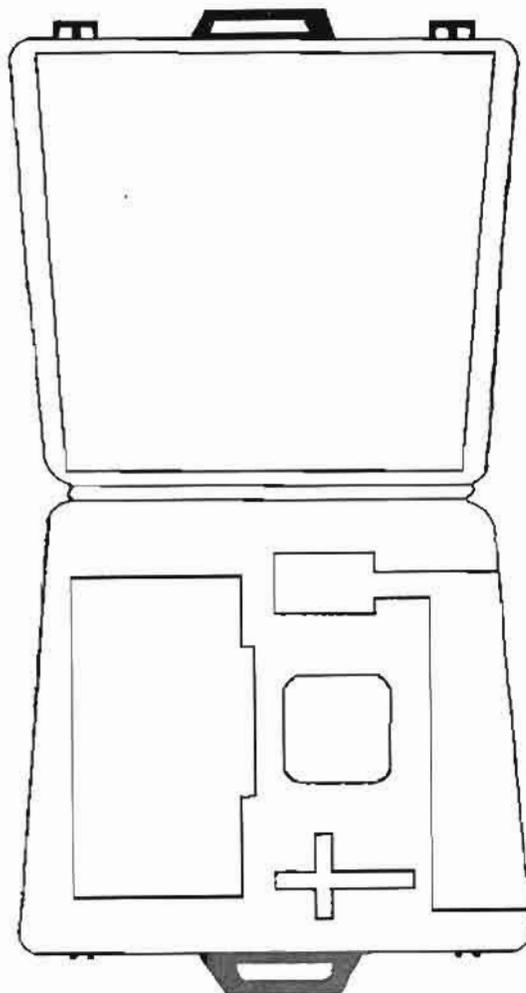

Figure 1-5. Case.
- d. *Case (fig 1-5).* The case, with polyurethane cushioning material, provides protection for the ventilator during transit and it also provides for storage of ventilator components and accessories. The polyurethane material has cutouts to position the ventilator components.